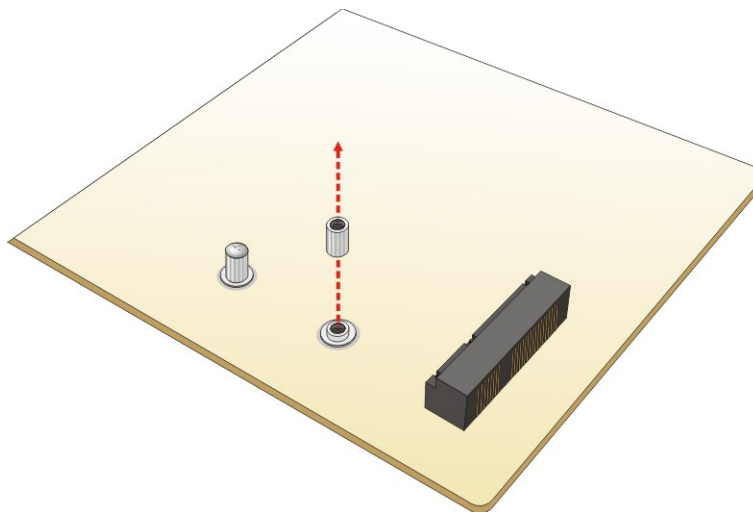

Figure 3-11: Removing the Standoff for Half-size PCIe Mini Card
Step 3: Remove the standoff for a half-size PCIe Mini card as shown in **Figure 3-11** to avoid interference of the board circuit.